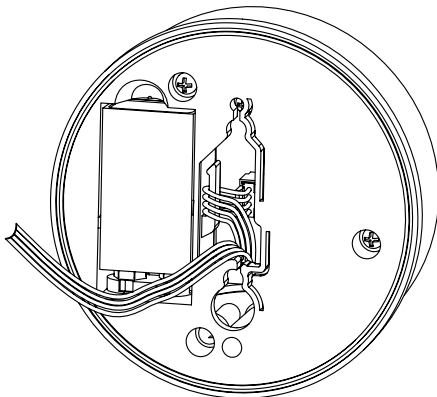

Figure 7
- d) Carefully fold any excess cable inside the entrapment. Make sure the cable is not too short to allow access to the back side of the entrapment during future battery replacement. (Figure 7)